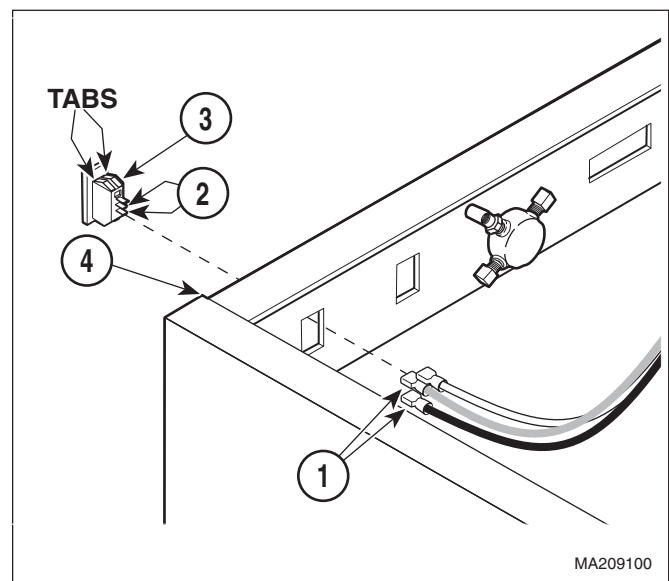

Figure 4-3. VACUUM ON / OFF Switch
- (1) Remove control box cover (Refer to para 4.1).
- (2) Tag and disconnect three wires (1, Figure 4-3) from terminals (2).
- (3) Press four tabs of VACUUM ON/OFF switch (3) inward simultaneously, and push VACUUM ON/OFF switch out of cabinet weldment (4).